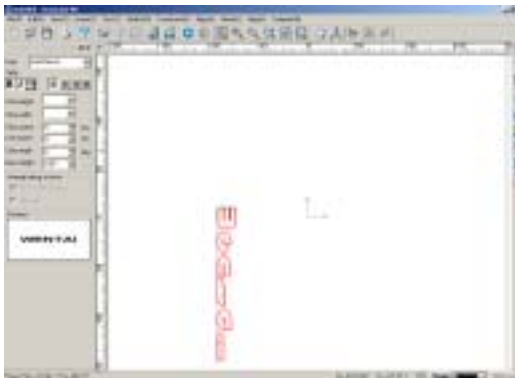

Fig. 7-8
2. Click on the icon . (Fig. 7-8)